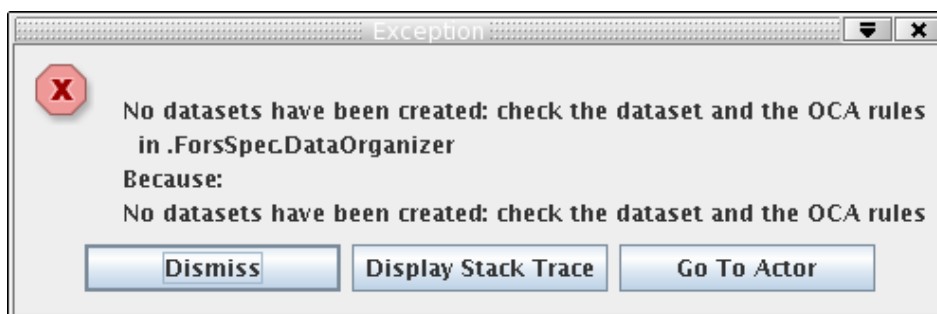

Figure 12.1: *TheDataOrganizer* interactive window reports an error “:No DataSets have been created, check the data set and the OCA rules.”.
- (b) it fails with error message “:No DataSets have been created, check the data set and the OCA rules.”(see Figure 12.1.)